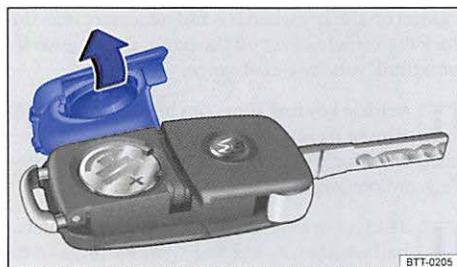

Fig. 15 Vehicle key: Open battery compartment cover.
- Remove the cover on the back of the vehicle key ⇒ fig. 15 in the direction of the arrow ⇒ ①.
- Position the new battery in as shown ⇒ fig. 15 and press it into the battery compartment (opposite to direction of the arrow) ⇒ ②.